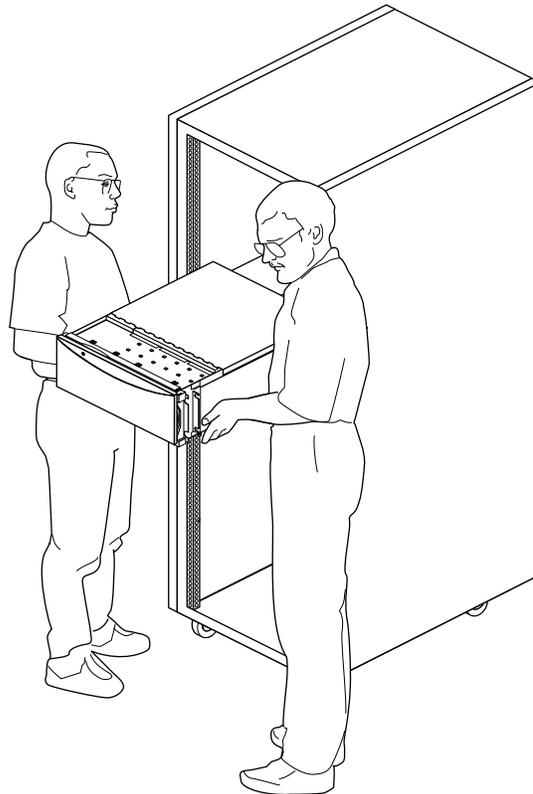

Figure 3-5 Lifting the Origin200 Server Into a Rack
2. With a person on each side of the chassis, lift it and move it to the equipment rack, as shown in Figure 3-5.